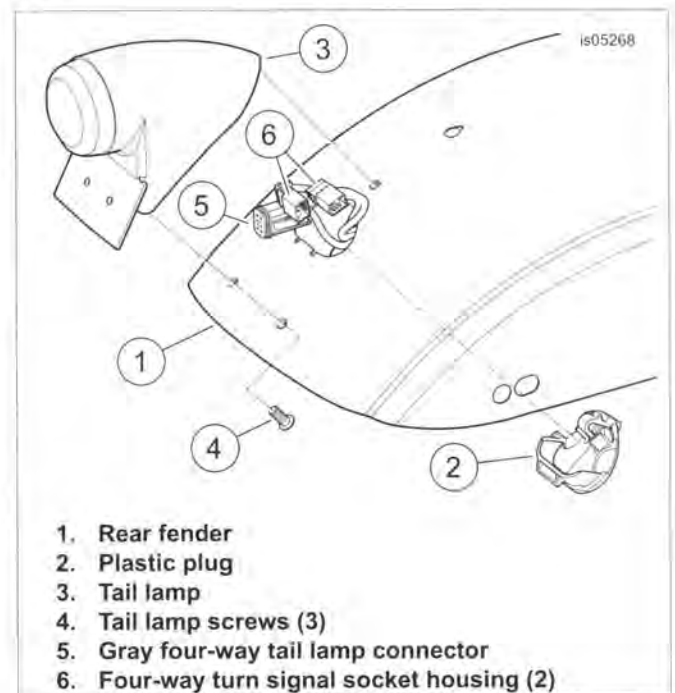

Figure 7-40. Rear Lighting Connections (FXDWG: HDI and Canada Models)
- See Figure 7-40. Remove plastic plug (2) from under rear fender (1).
- Remove tail lamp screws (4).
- Lift slightly on tail lamp (3) and disconnect gray four-way tail lamp connector (5).